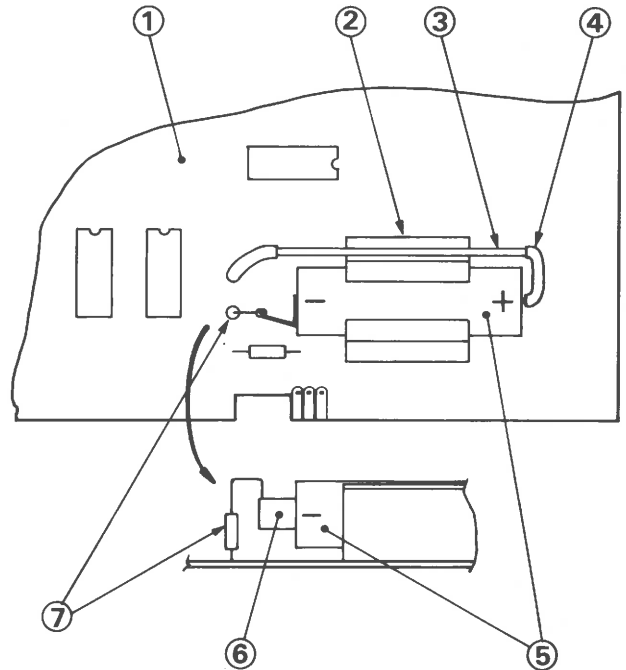

FIG. 5.1 DIGITAL PCB BATTERY REPLACEMENT
- (d) Remove battery as follows (Refer to Fig. 5.1)
- (1) Push sleeve (4) back along the red wire to expose the solder joint.
- (2) Unsolder red wire (3) from positive terminal of the battery (5)
- (3) Unsolder the negative terminal of the battery (5) from resistor R60 at the wrap-joint
- (4) Remove battery (5) from battery clip (2)